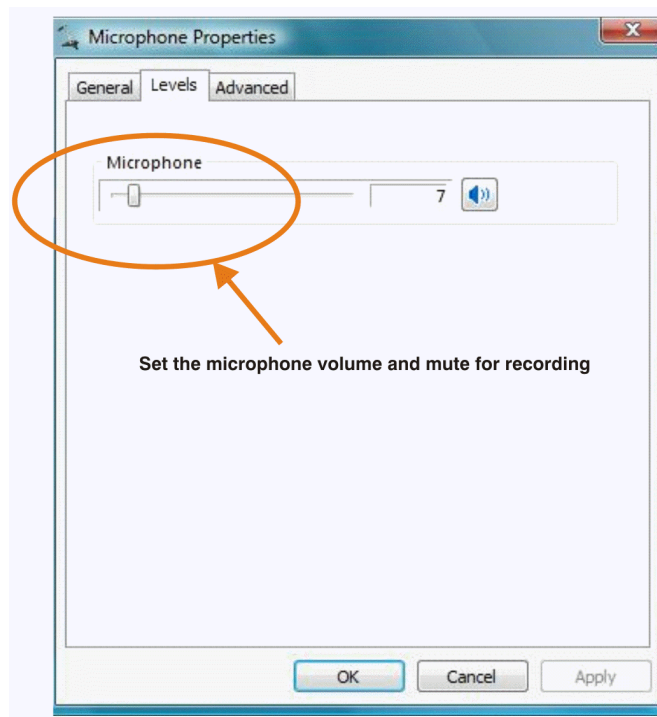

Figure 3-4. Microphone Properties—Levels Tab (Windows Vista)
- Step 2. Open the microphone properties of the USB audio codec from the Sound options and select the *Levels* tab, as Figure 3-4 illustrates.